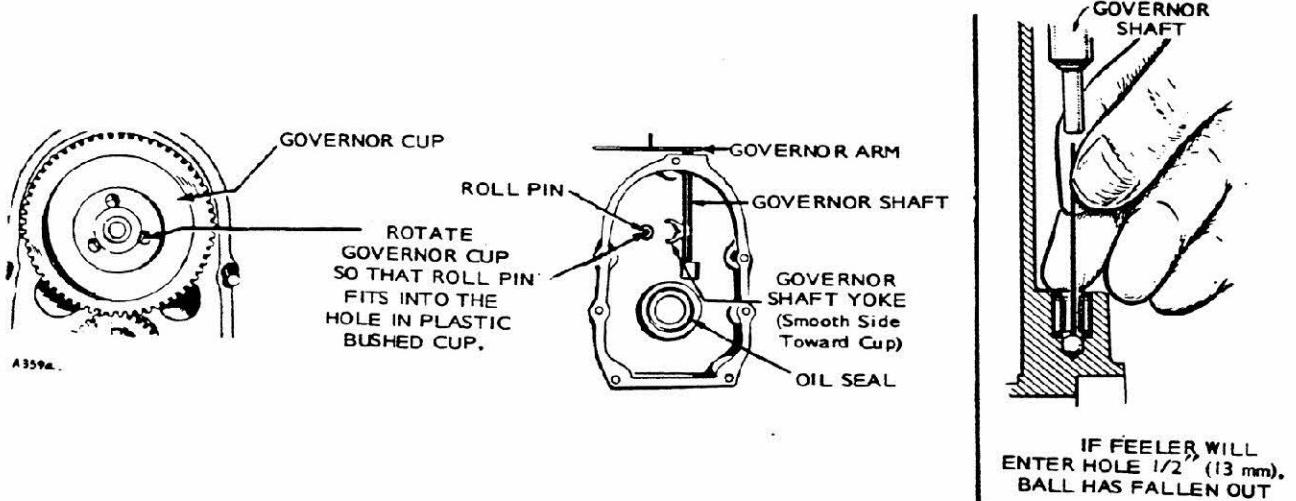

FIGURE 41. GEAR COVER ASSEMBLY
**CAUTION** When installing the gear cover, make sure that roll pin in the gear cover engages the governor cup correctly. Figure 41.
Turn the governor cup so that the plastic bushed hole is at the three o'clock position. The smooth side of the governor yoke must ride against the governor cup. Turn the governor arm and shaft clockwise as far as possible and hold in this position until the gear cover is installed flush against the crankcase. be careful not to damage the gear cover oil seal. Adjust the roll (stop) pin to protrude to a joint 3/4 inch from the cover mounting surface. See Figure 41.
With the gear cover removed, the governor cup can be taken off after removing the snap ring from the camshaft center pin. Catch the flyballs while sliding the cup off. See Figure 41.